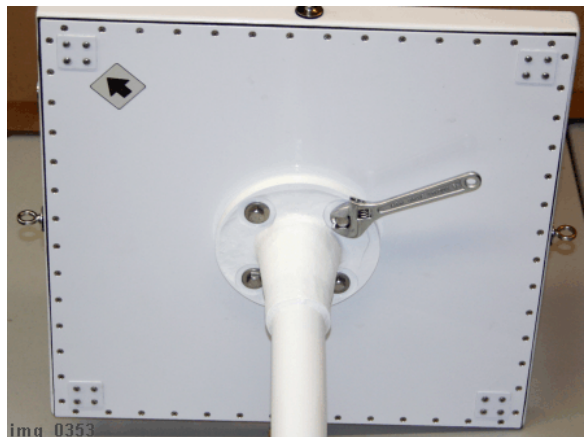

Figure 5 - Securing the Main Chassis to the Mast Flange
15. Install the four 1-1/4" long 3/8" dia. stainless-steel bolts into the chassis support flange holes as per Figure 5. Screw in each bolt until the threads catch. **Note:** Since this and the next step are very awkward to accomplish by one person alone, we strongly recommend that two people do this; one to support the chassis and the other to install the bolts.
16. After all four bolts have been started, firmly finger-tighten each bolt as far as possible. Once done, fully tighten these bolts with a wrench as per Figure 5, *being sure that there is no cross-threading*. Inspect the junction between the chassis and flange to verify that there is no space in between (i.e., the flange top should be fully flush with the chassis underside).